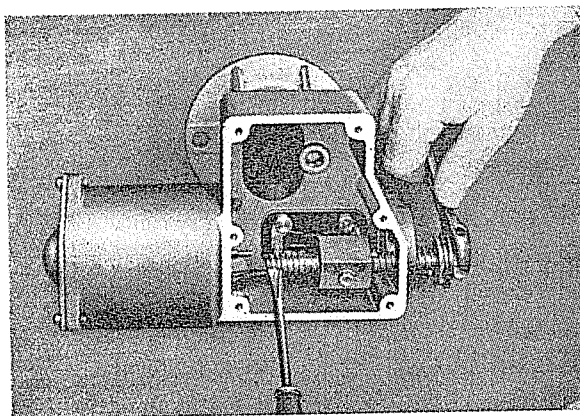

Fig. 58.
- (8) Remove drive screw bearing cover on bottom and push down on screw assembly until bearing is free from housing. Insert screw driver in drive slot of screw and remove bearing retainer nut and bearing (Figure 58).